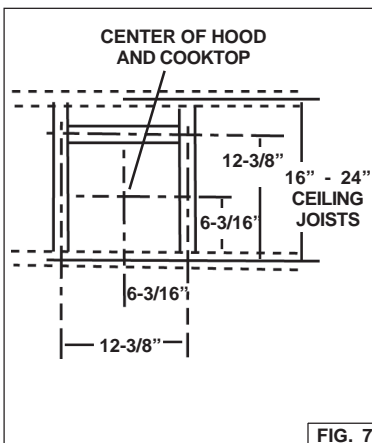

FIG. 7
2. Secure 2x4" cross framing around hood center. See Fig. 7 for dimensions. **Note: Framing must be firmly secured to support weight of hood. If joists are cut, frame in using the same size lumber.**